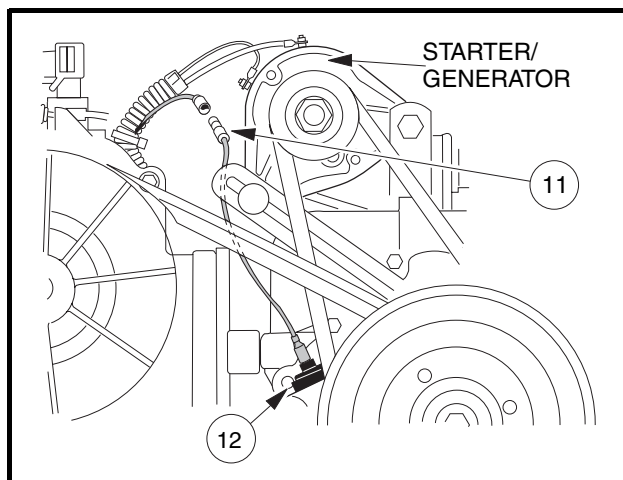

Figure 13-2 Oil Level Sensor Wire
1. Remove yellow jumper wire (11) from cord connector (12) (**Figure 13-2, Page 13-4**).
5. Connect the yellow jumper wire (11) to the cord connector (12) (**Figure 13-2, Page 13-4**).